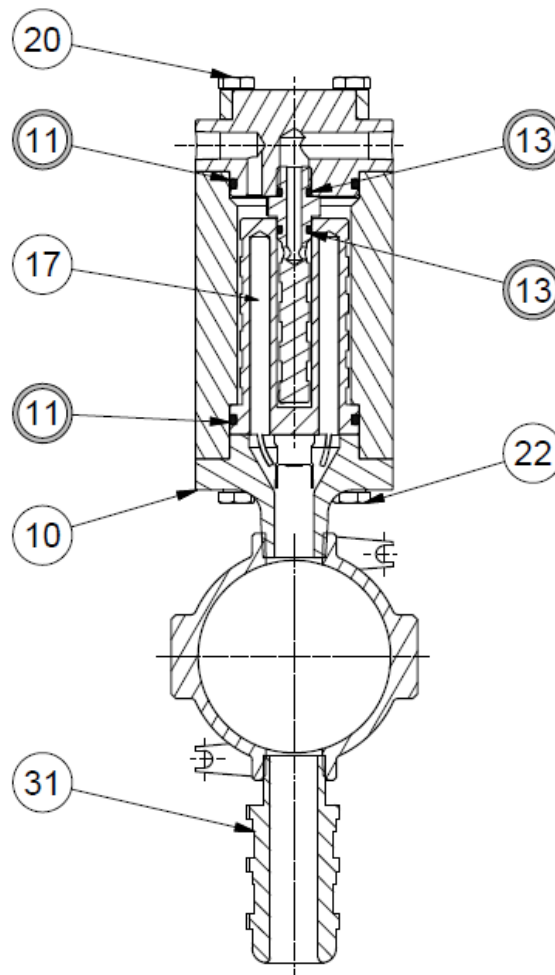

Fig. 4
Before disassembling the electric heater, it is necessary to check to have a series of suggested spare parts. (fig. 4). Disassembly the heater removing screws pos. 22 and pos. 20. Replace O-ring pos. 13, and 11.